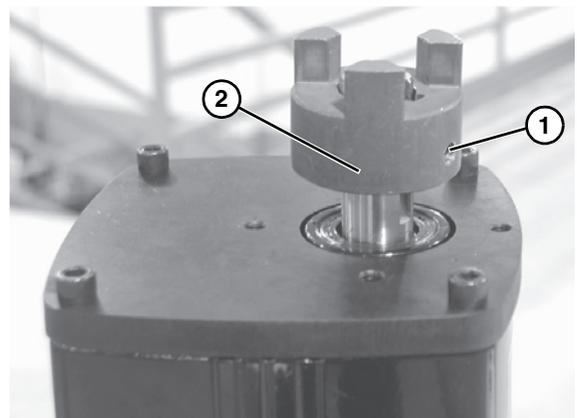

Figure 10
6. Loosen set screw (**Figure 10, item 1**) and remove 3 jaw coupling (**Figure 10, item 2**).